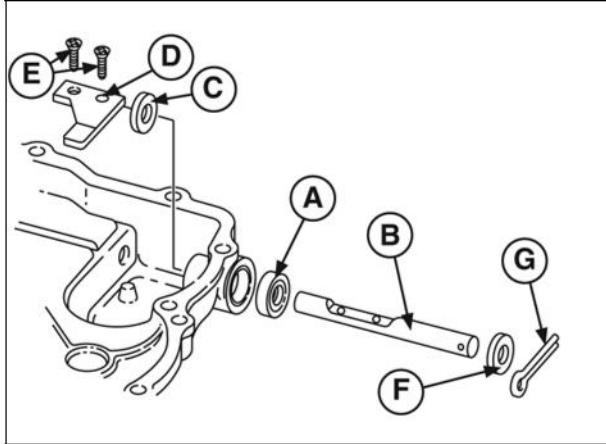

Figure 14
2. Install new oil seal (A, Figure 14) with seal lips in.
3. Install governor shaft (B) and spacer (C).
4. Install governor paddle (D) using new screws (E). Use Torx® Driver #19445. Torque to values listed in Section 14 - Engine Specifications.
5. Install washer (F) and new cotter pin (G).